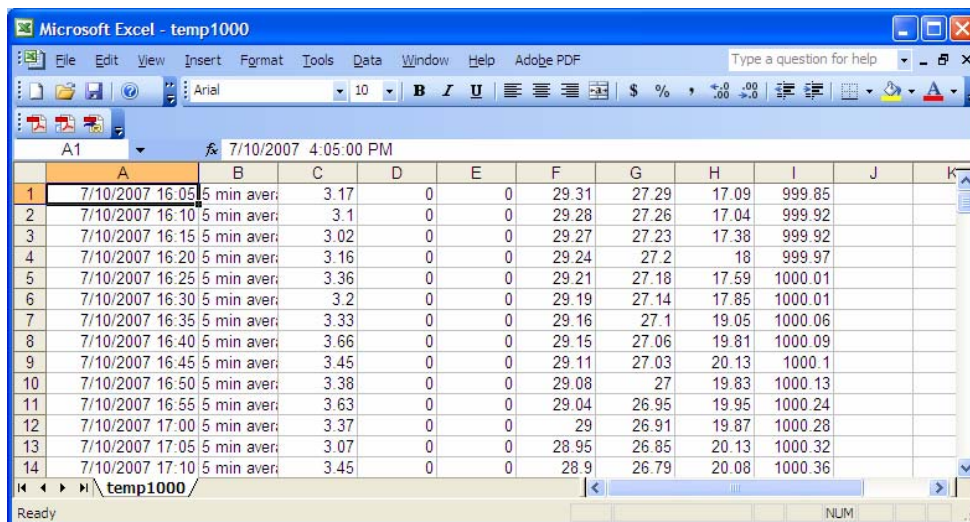

Figure 36 Imported Data.
6. Verify its details in the Details window as shown in Figure 36